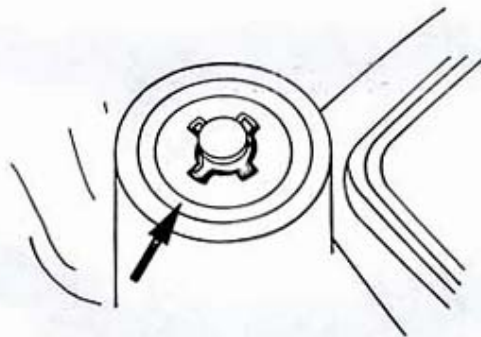

Fig. 1
- You need not remove the fork caps retainer nuts (fig. 1).